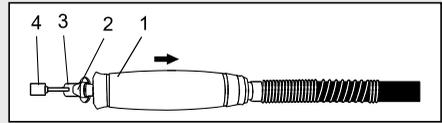

Fig. 26
1. To insert a cutting bit into the flexible shaft collet, pull the shaft locking collar (1) back (Fig. 26). While holding the shaft locking collar back, rotate collet nut (2) until the shaft locking collar engages the shaft. Loosen the collet nut by using the 3/8" collet wrench (3) to turn the collet nut counter clockwise.
2. When collet is loose, insert accessory (4) and turn collet clockwise to tighten, making sure the accessory is centred in the collet. Use the flat wrench to tighten the collet nut.